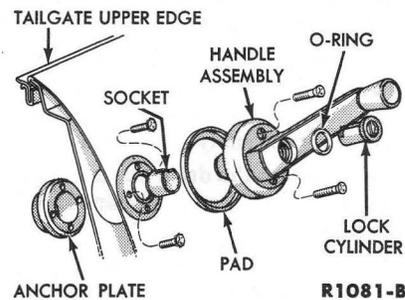

FIG. 21—Tailgate Window Regulator Handle
1. With the tailgate window in the closed position, unlock the tailgate handle, and rotate the handle assembly to reveal the mounting screws (Fig. 21).
5. If the window regulator has been replaced, it may be necessary to reposition the handle assembly so that it hangs in a vertical position, with the tailgate window in a closed position. To adjust the handle position, remove the snap ring and socket from the window regulator stem, and then install the socket with the notch at the top (Fig. 21).
6. Install the pad and handle assembly (Fig. 21).